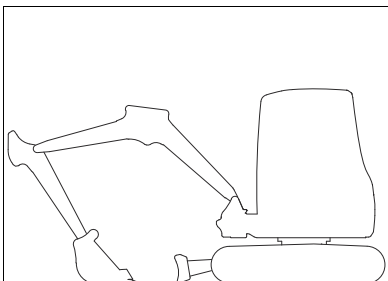

Fig. 190
- ▶ Park the machine as shown in Fig. 190.